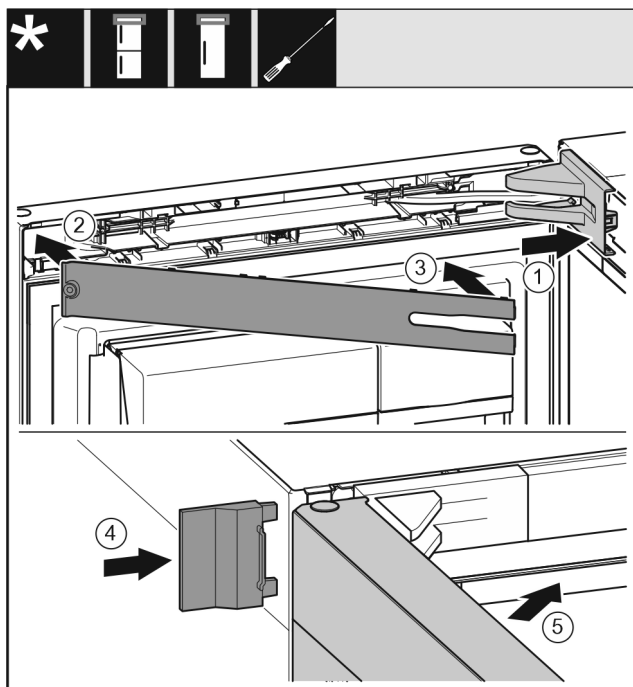

Fig. 25
- ▶ Put the swap bearing block cover *Fig. 25 (1)* on and engage, push apart carefully if required.
- ▶ Fit the trim *Fig. 25 (2)*.
- ▶ Screen *Fig. 25 (3)*
- ▶ Push the outer cover *Fig. 25 (4)* on.
- ▶ Close the upper door *Fig. 25 (5)*.